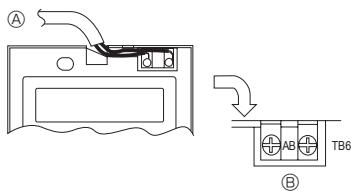

Fig. 6-9
2) Connecting procedures (Fig. 6-9)